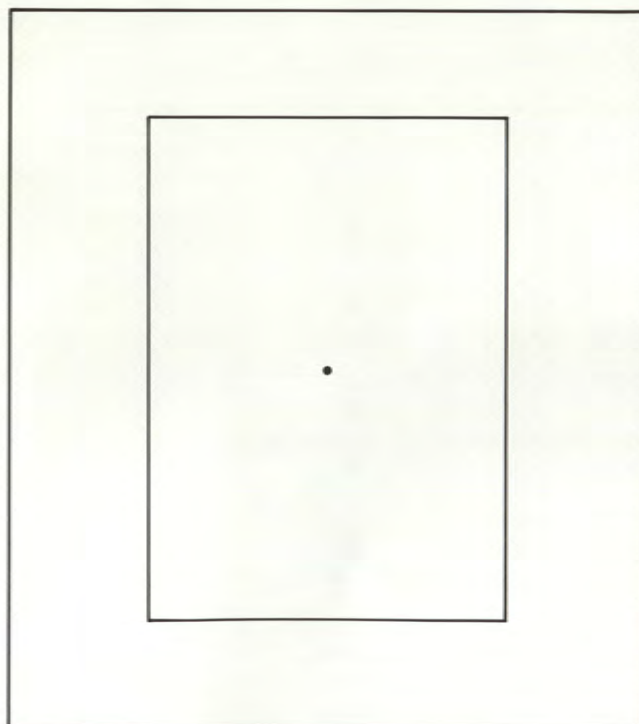

FIGURE 3-21. FUNCTIONAL CHECK GRAPH PROGRAM A
c. Compare the plot obtained with Figure 3-21. The perimeter of the rectangle plotted should be located within each quadrant as indicated. Program should end with the pen up, positioned in the center as was set in paragraph 3-52. IMPROPER DATA light should be on.